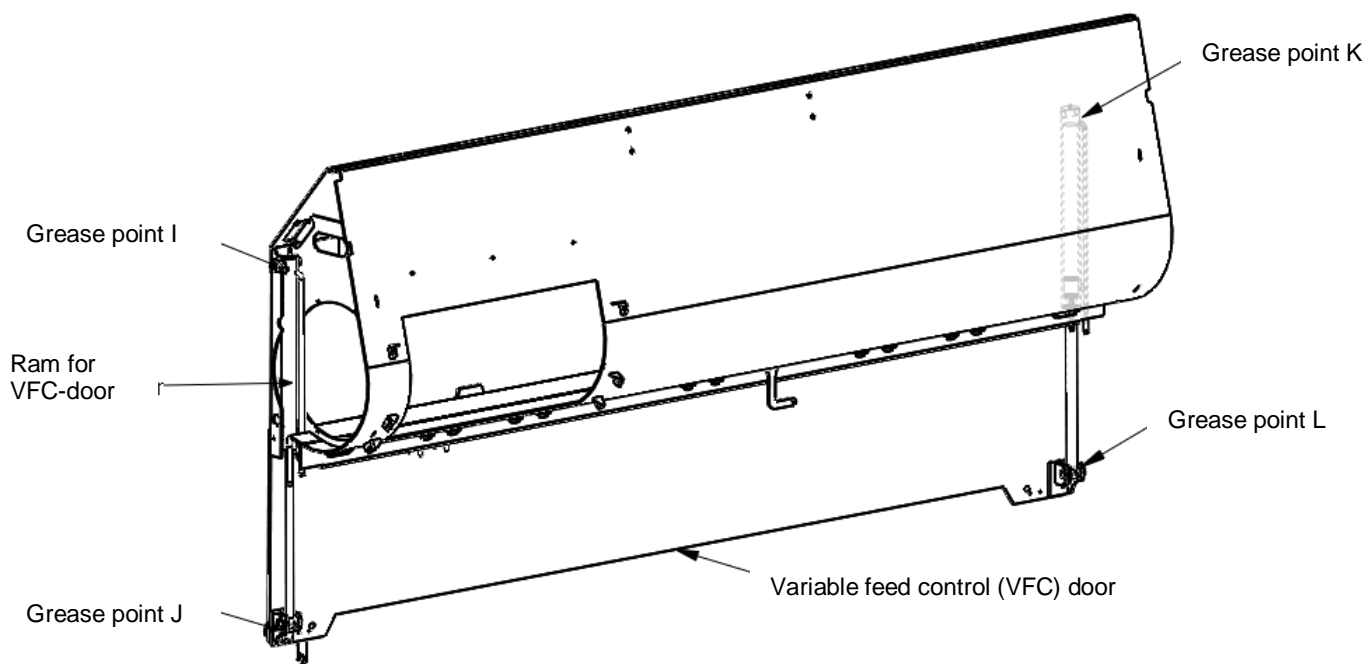

Figure 14: VFC-door grease points
- a. 2 pins and 2 bushes on the VFC-door lifting rams (I, J, K and L, Figure 14)